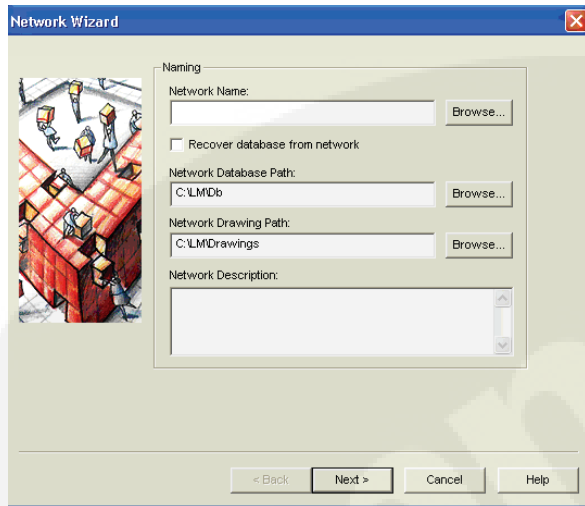

FIGURE 4-22. RENAMING YOUR NETWORK
8. After choosing to continue, enter a network name for this project. Give your database a name that will allow you to associate the network with the project (see Figure 4-22). Click **Next**.